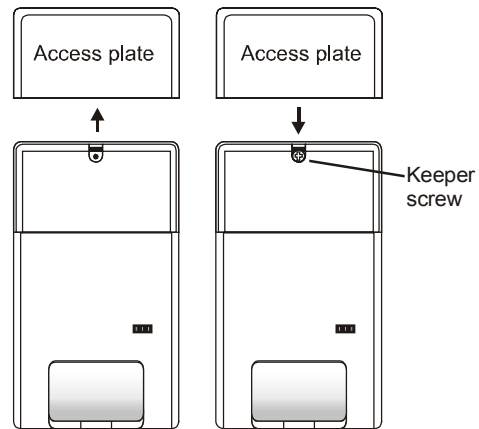

Figure 17: Securing the cover to the base
- 4 Remove the access plate from the cover (Figure 17).